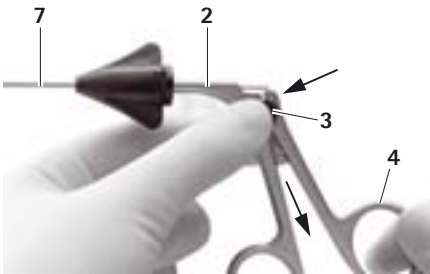

Fig. 1
- To separate handle 2 and working insert 7, see Fig. 1: